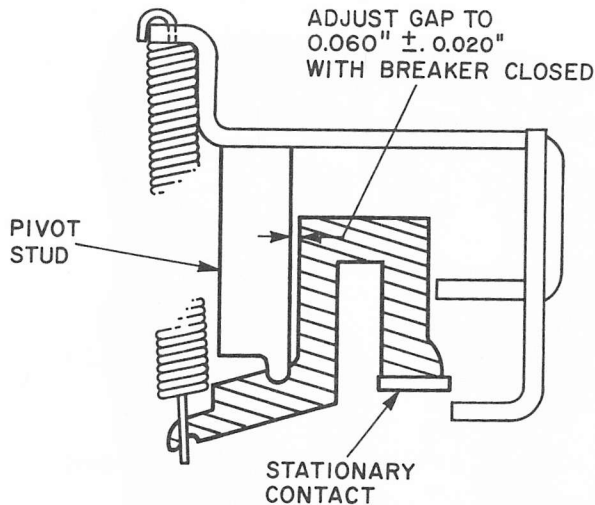

Fig. 7. AKR-30 wiper adjustment - view from top of breaker
4. Select one pole and, using a flat or wire feeler gage, measure the gap between the top contact and its pivot stud as shown in Fig. 7. As necessary, adjust the gap to  $0.060 \pm 0.020$  inch by turning the wipe adjustment stud.